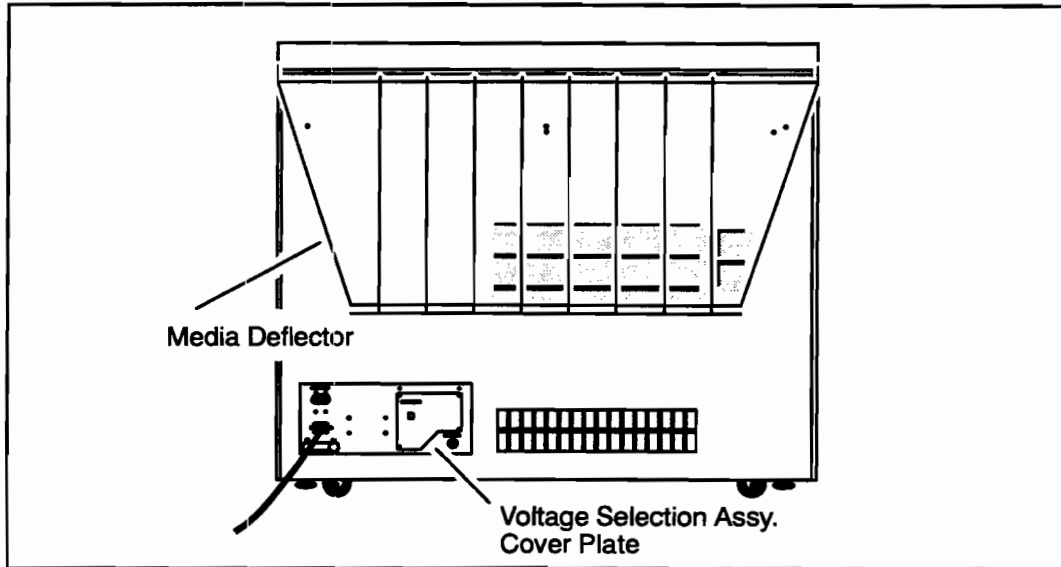

Figure 3-17. Removing the Cover Plate
4. Remove the cover from the voltage selection assembly. See Figure 3-17.